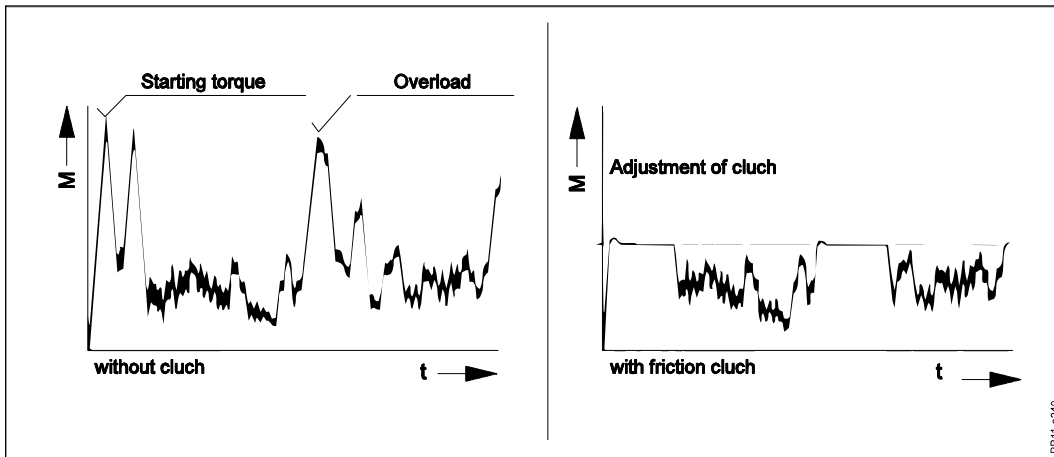

Fig. 7-3
**Fig. 7-3** In order to ensure a long life for your tractor and machine, the machine is delivered with a friction clutch on the PTO drive shaft at the rear end of the drawbar and on the driving mechanism for the feed rollers. The figure illustrates how the clutch protects the transmission against high torque peaks and at the same time is capable of transmitting the torque while it is in function (slips).